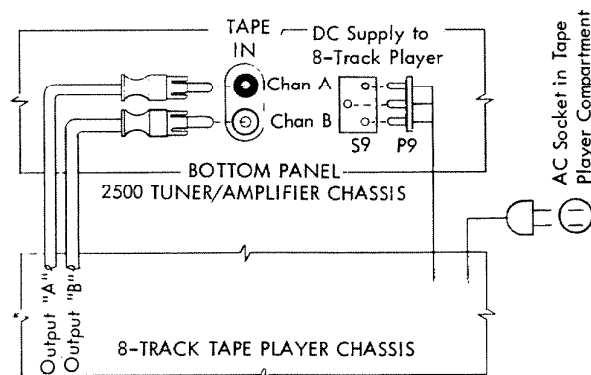

Fig. 1.27
- (2.7) Disconnect tape player's audio cables from TAPE IN jacks in bottom of receiver chassis. (Fig. 1.27)
- (2.8) Disconnect tape player's standard AC plug from AC outlet in center compartment of "B" Box Assy. (Fig. 1.27)
(2.9) Disconnect tape player's DC supply plug P9 from socket S9 in bottom of receiver chassis. (Fig. 1.27)